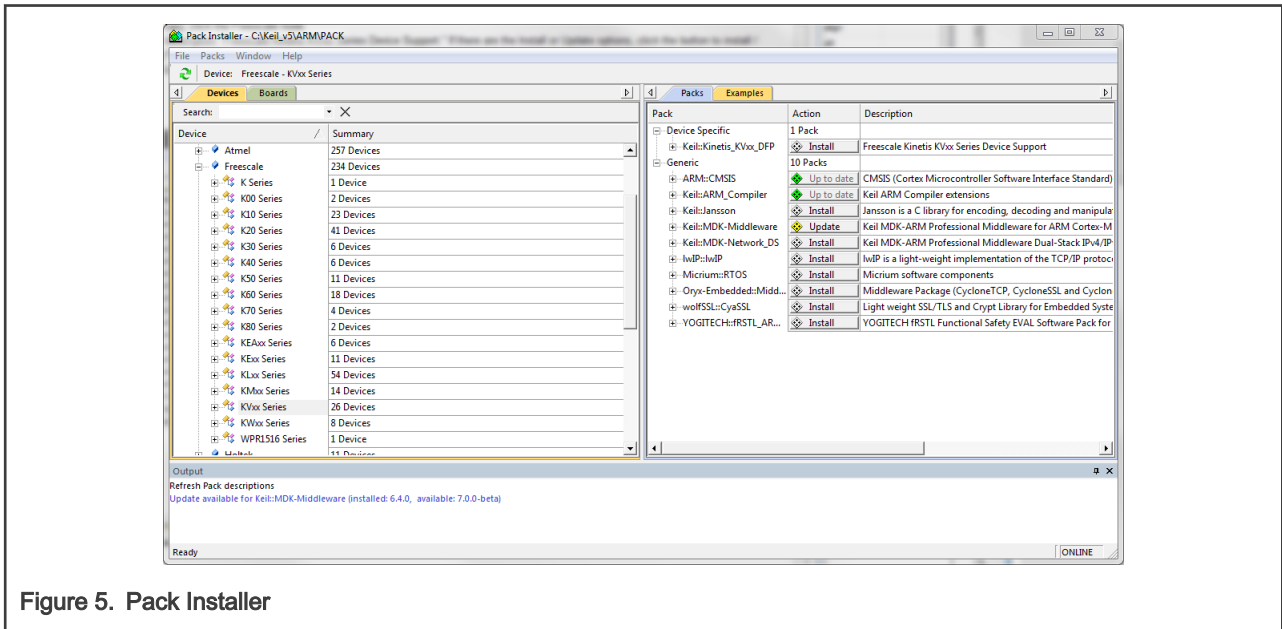

Figure 5. Pack Installer
- Look for a node called "Keil::Kinetis_KVxx_DFP." If there are the Install or Update options, click the button to install/update the package. See Figure 5.